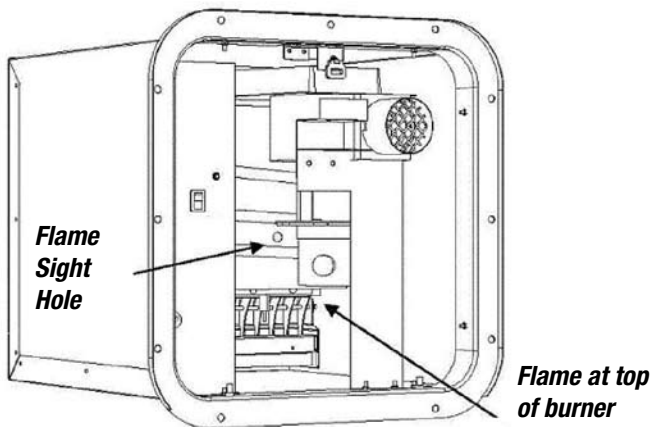

Figure 9
8. Turn on the power to the water heater and open a hot water faucet to inspect the flame of the burner. The flame should be of the normal bluish appearance that indicates proper combustion. This can be accomplished by observing the flames through the sight hole and looking at the burner under the edge of the heat exchanger (See Figure 9.).